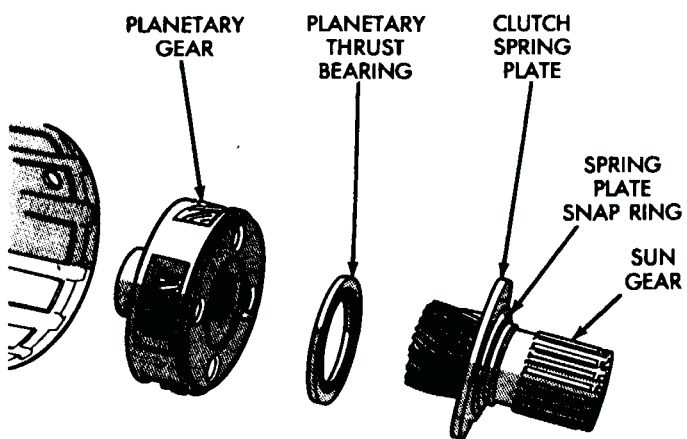

Fig. 26 Sun Gear, Thrust Bearing And Planetary Gear Removal
(15) Remove sun gear and spring plate, planetary thrust bearing and planetary gear (Fig. 26).